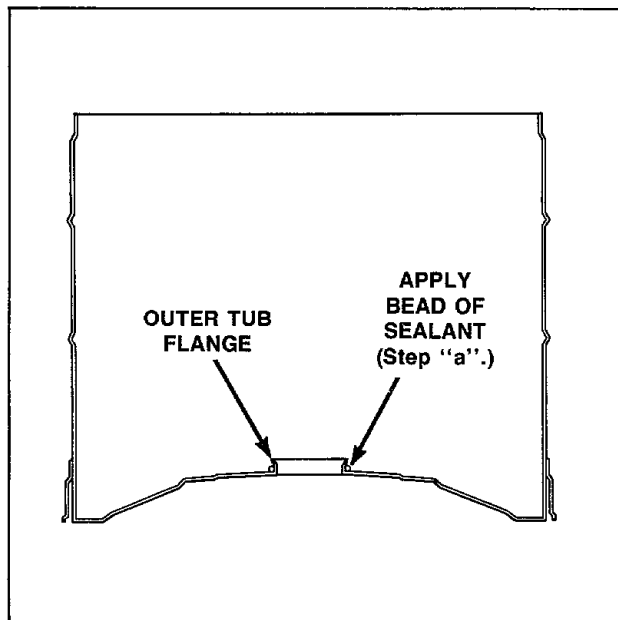

Figure 42
- a. Apply a small amount of No. 27615 Sealant (supplied in kit) around the outer surface of the tub flange, *Figure 42*.